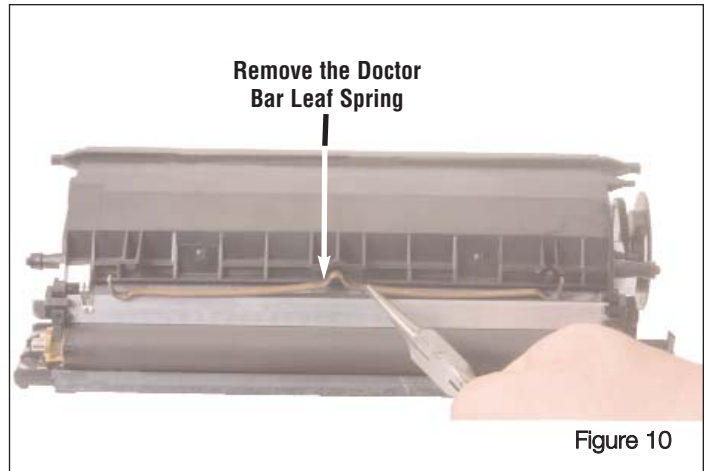

Figure 10
1. Remove the Doctor Bar Leaf Spring using needlenose pliers or your hands. See Figure 10.